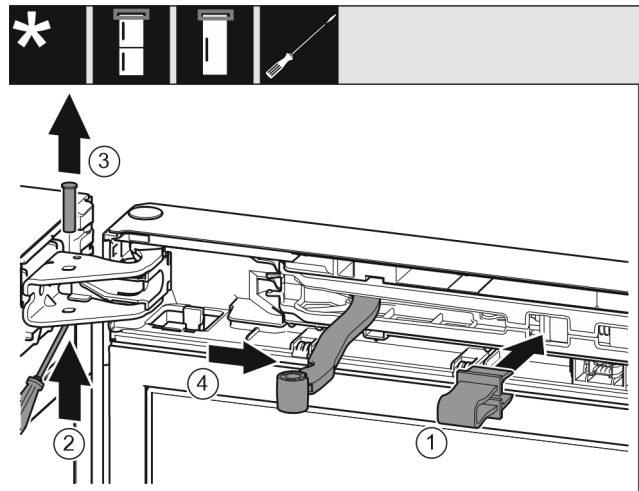

Fig. 8
- Engage the locking device in the opening. Fig. 8 (1)
- Unscrew the bolt with a screwdriver. Fig. 8 (2)
- Remove the bolt upwards. Fig. 8 (3)
- Turn the hinge in the direction of the door. Fig. 8 (4)